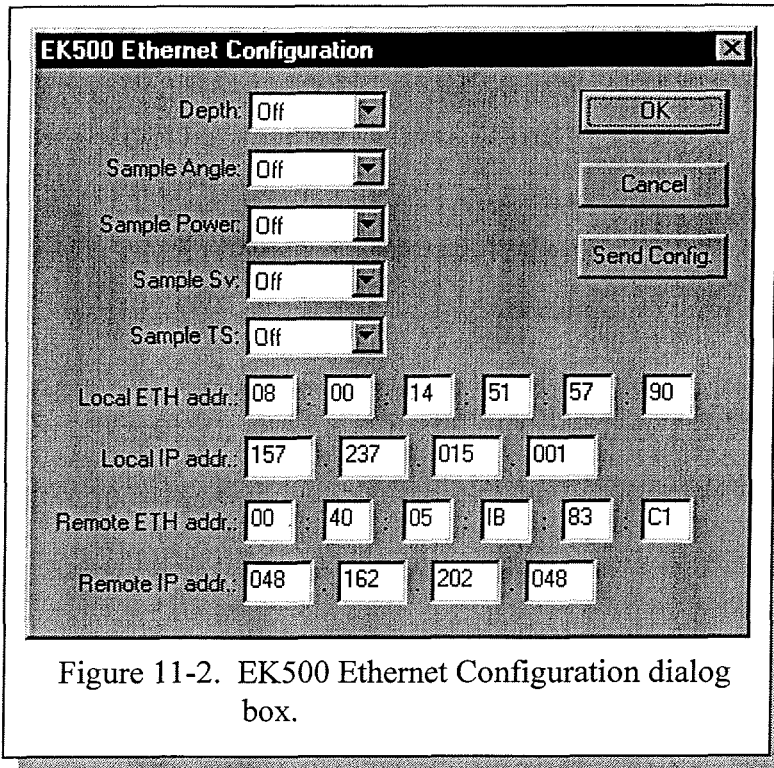

Figure 11-2. EK500 Ethernet Configuration dialog box.
11.2 EK500 / Ethernet Configuration Menu (Figure 11-2.)